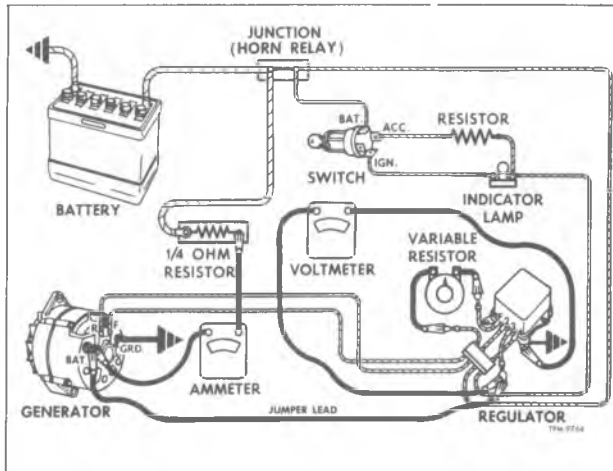
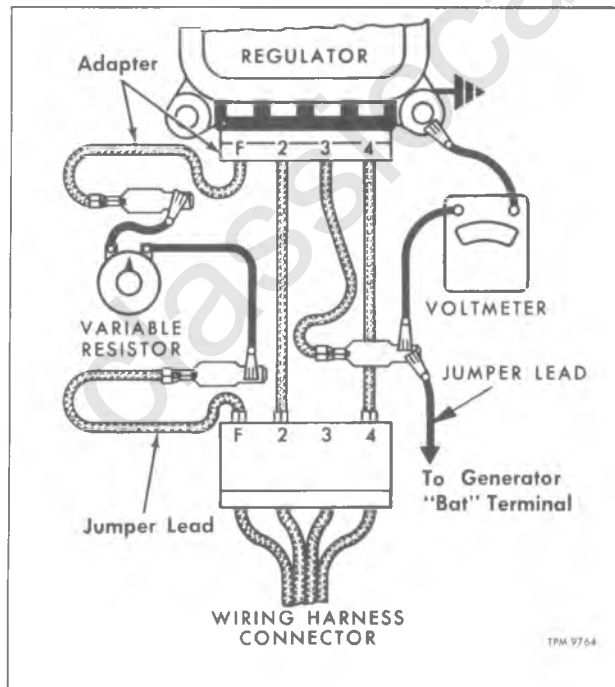

Figure 14—Connections for Testing Regulator Voltage Setting (Two-Unit Type Regulator)
Figure 15—Testing Voltage Setting (Two-Unit Regulator)
1. Refer to figure 14 which shows all test equipment connected into system. Figure 15 shows use of special adapter and jumper lead at regulator.
2. Connect an ammeter and a $\frac{1}{4}$ -ohm resistor with a rating of 25 watts or more in series in the circuit at the "BAT" terminal on the generator (fig. 14). In the event the battery is discharged, the $\frac{1}{4}$ -ohm resistor will limit the generator output to 10 amperes or less which is required, when checking and adjusting the voltage setting.
3. Install special adapter as shown in figure 14. Use a 25 ohm 25 watt variable resistor in series with the generator field windings at the regulator "F" terminal, and connect a jumper lead from the #3 adapter lead to the generator "BAT"